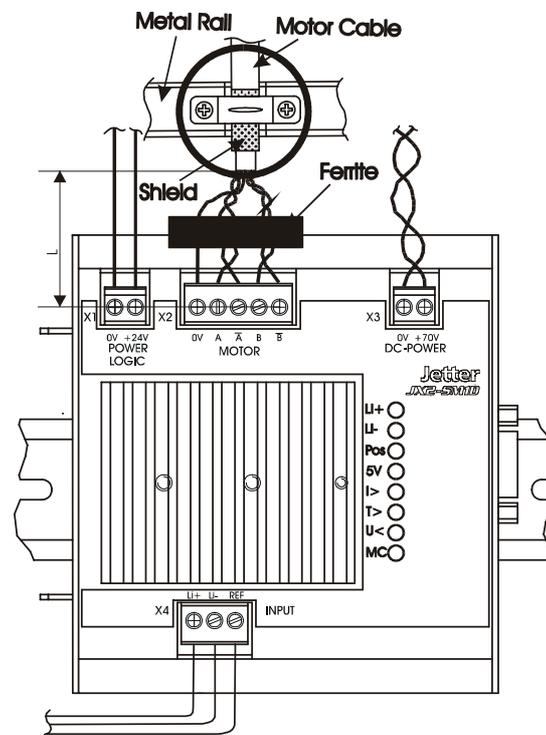

Figure 2: Shielding connection of the motor cable according to EMC
- Connect the strain relief directly and extensively with the earthed area (see Figure 2).
- Shielding must be clamped extensively under the tightening screws (see Figure 2).
- Connect the shield with the conductive metal rail (see Figure 2)
- Distance "L" between the wire ends and the shielding is to be limited to 8 cm max. (see Figure 2)
- Over the wire ends that have not been shielded, a hinged ferrite is to be mounted. Each of the five cables are to be passed through the ferrite (not to be wrapped; see Figure 2). Please mind carefully to keep the hinged ferrite latched and make sure no cable has got caught.